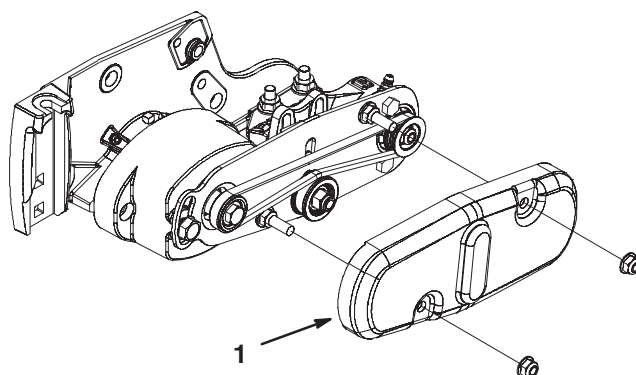

Figure 16
22. Slide the belt cover onto the mounting bolts and secure with (2) flange nuts (Fig. 16).